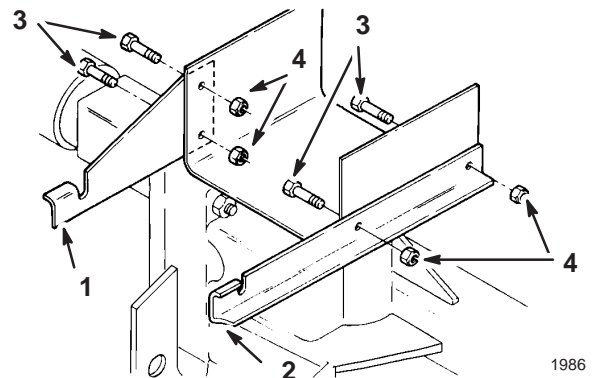

Figure 2
1. Remove and discard the 4 bolts and nuts from the rear of the tractor frame (Fig. 2).
2. Mount the 2 support brackets against the tractor frame (Fig 2) with 4 bolts (5/16 x 7/8 in.) and locknuts (5/16 in.).